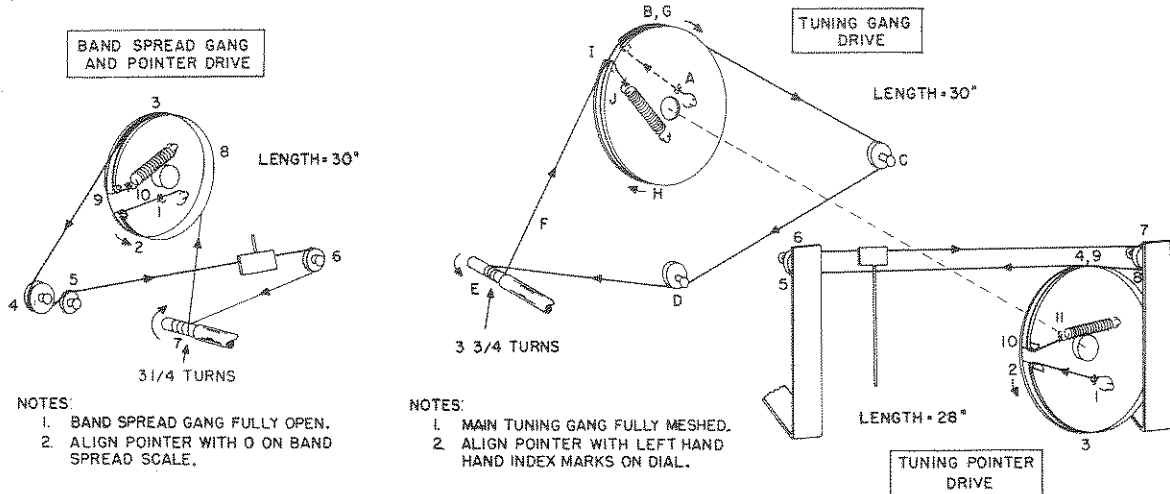

FIG. 3 DIAL CORD STRINGING DIAGRAMS
RESTRINGING DIAL CORD - The dial drive system of the S-72 consists of three separate string drives (1) BAND SPREAD gang and pointer drive (2) TUNING gang drive and (3) TUNING pointer drive. Refer to Fig. 3 for the dial stringing diagrams.